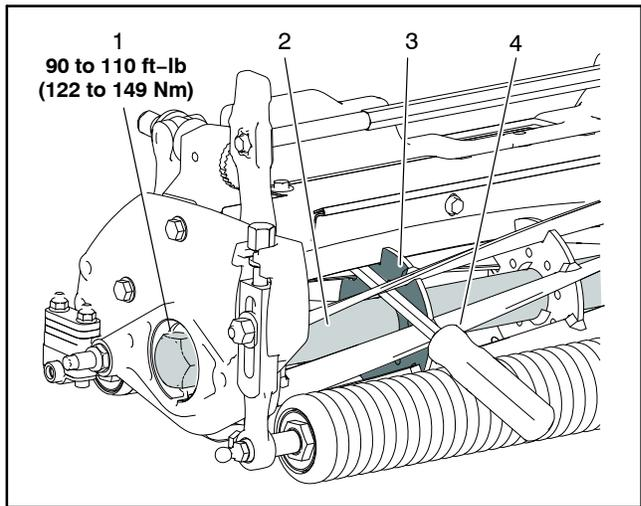

Figure 27
A. Insert a long-handled pry bar (3/8 x 12 inch with a screwdriver handle recommended) through the front of the cutting unit. The pry bar should pass between the top of the reel shaft and the backs of the reel blades so that the reel will not move (Fig. 27).